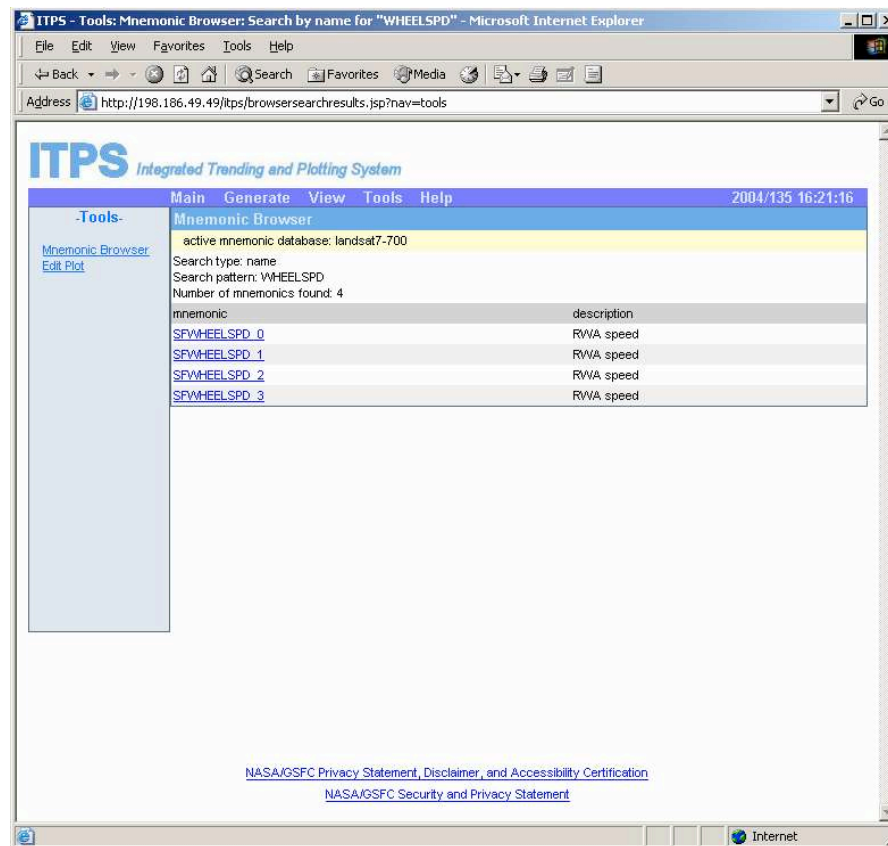
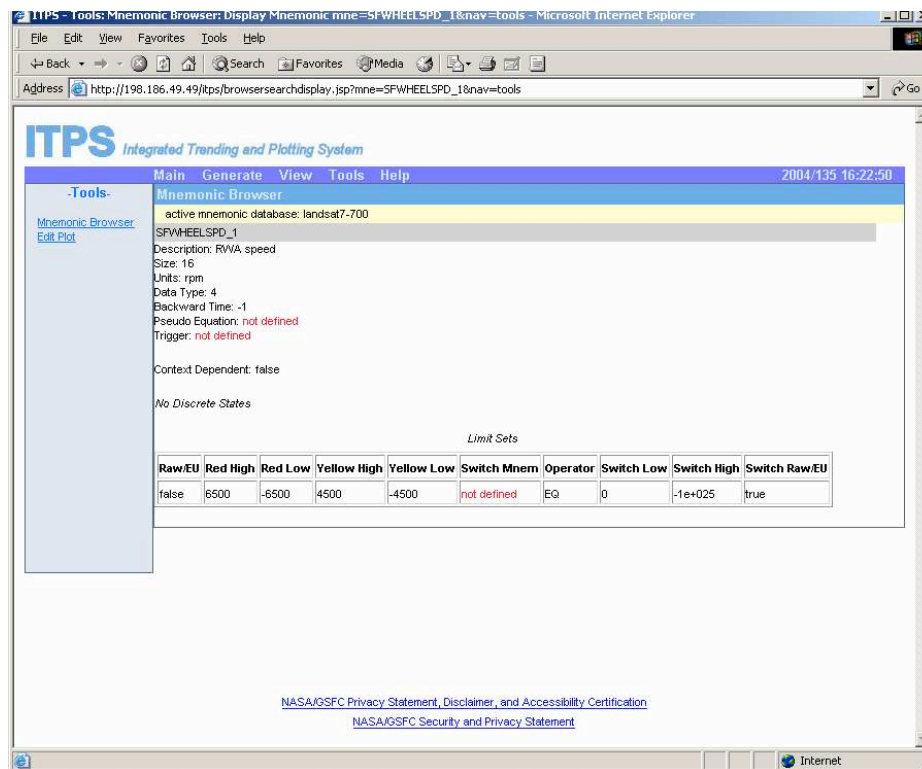

Figure 139: Mnemonic Browser Mnemonic Selection Screen
Figure 140: Mnemonic Browser Mnemonic Info
- Click the mnemonic name (see Figure 139) to view mnemonic details (see Figure 140).